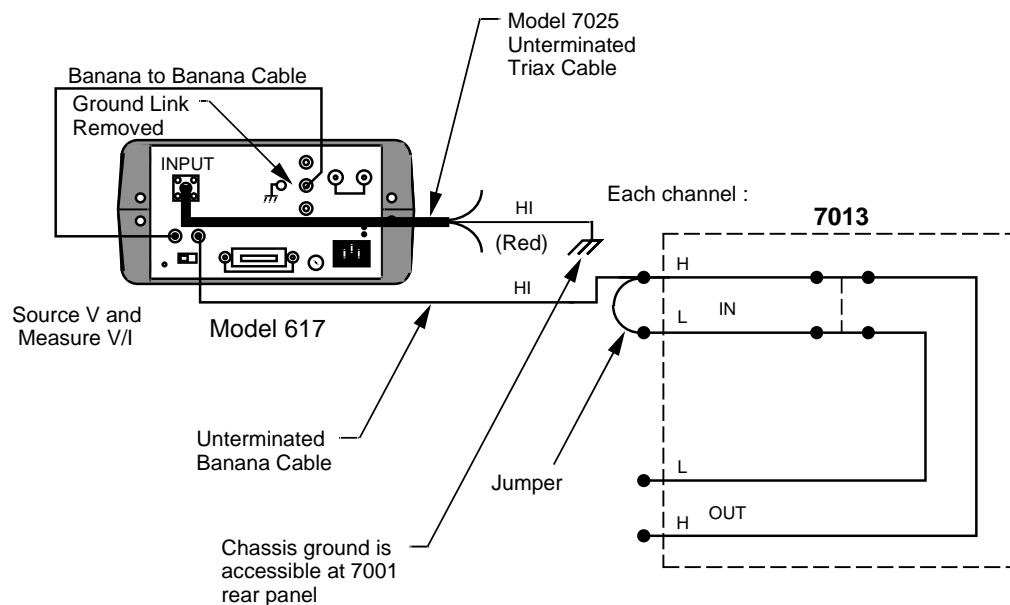

Figure 5-6
Refer to Figure 5-6 and perform the following steps to test common-mode isolation.
2. Connect the Model 617 to Channel 1 as shown in Figure 5-6. Make sure the voltage source is in standby. Note that the voltage source HI is connected to both input (IN) high (H) and low (L) by installing a jumper. Electrometer HI can be connected to chassis ground at the rear panel of the Model 7001.